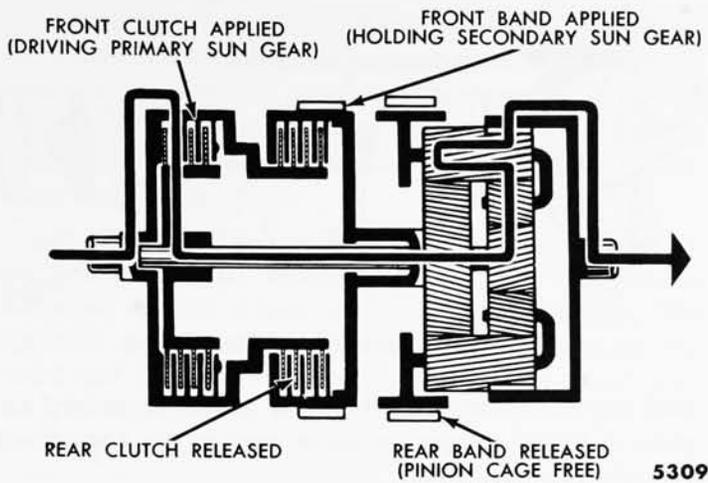

Fig. 10—Power Flow Intermediate Range
(2) **INTERMEDIATE RANGE.** Intermediate range is accomplished by driving the primary sun gear and holding the secondary sun gear (fig. 10). The primary pinions drive the secondary pinions causing them to “walk” around the secondary sun gear carrying the internal gear and output shaft around with them.